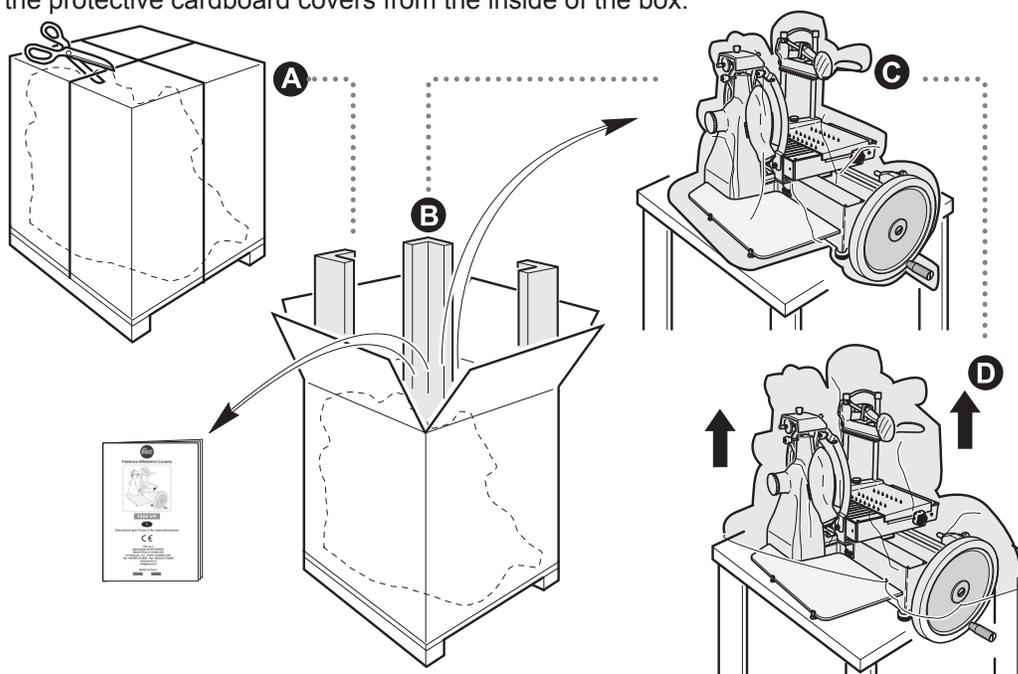

Figure 7-1
2. Cut and remove the plastic bands from the box (Figure 7-1).